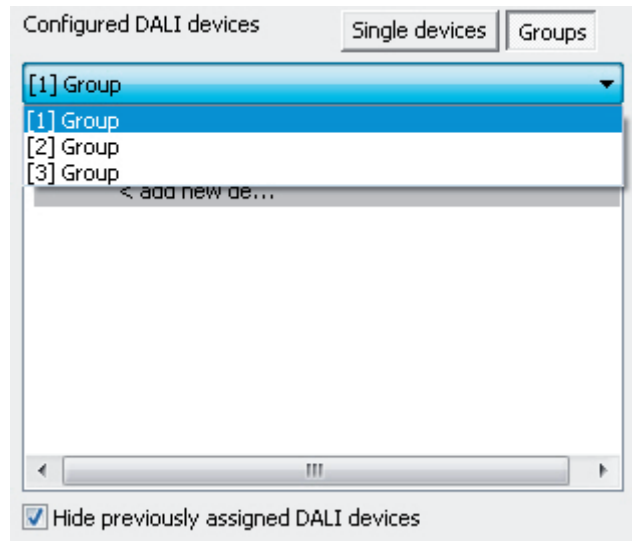

Figure 67: Selecting a group
- In the left-hand section of the DALI commissioning environment, select the required group to which the operating devices are to be added.(figure 67).